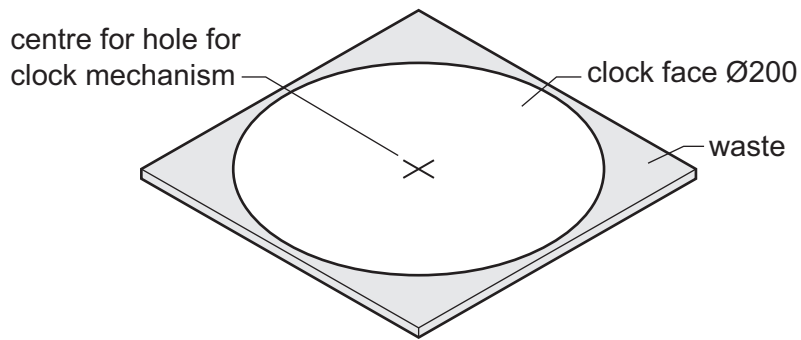

Fig. 12.2
- (c) Fig. 12.2 shows the clock face marked out on a sheet of 5 mm thick acrylic.
(d) A $\text{Ø}5$ hole will be drilled through the clock face shown in Fig. 12.2 for the clock mechanism. State **two** precautions that must be taken to prevent damage to the clock face when drilling the hole.